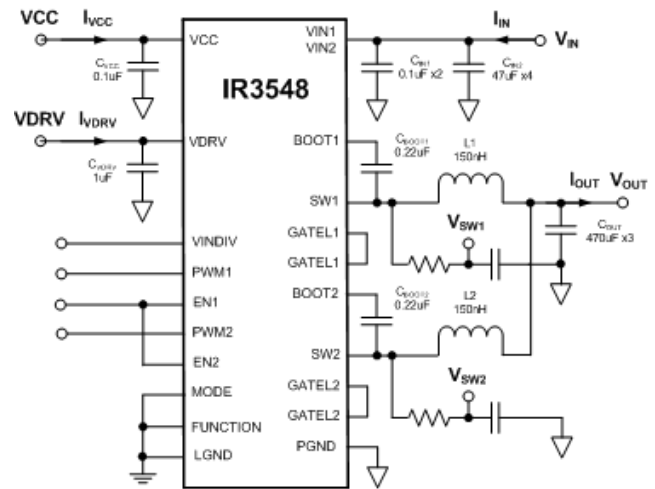

Figure 34: IR3548 Power Loss Measurement
Circuit of Figure 34, $V_{IN}=12V$, $V_{OUT}=1.2V$, $f_{SW} = 400kHz$, $L=150nH$ ($0.29m\Omega$), Two Phases, Dual Driver, PWM Mode, $V_{CC}= 5V$, $V_{DRV}=7V$, $T_{AMBIENT} = 25^{\circ}C$, no heat sink, no air flow, 8-layer PCB board of 3.7"(L) x 2.6"(W), no PWM controller loss, no inductor loss, unless specified otherwise.
The two-phase IR3548 efficiency and power loss measurement circuit is shown in Figure 34.